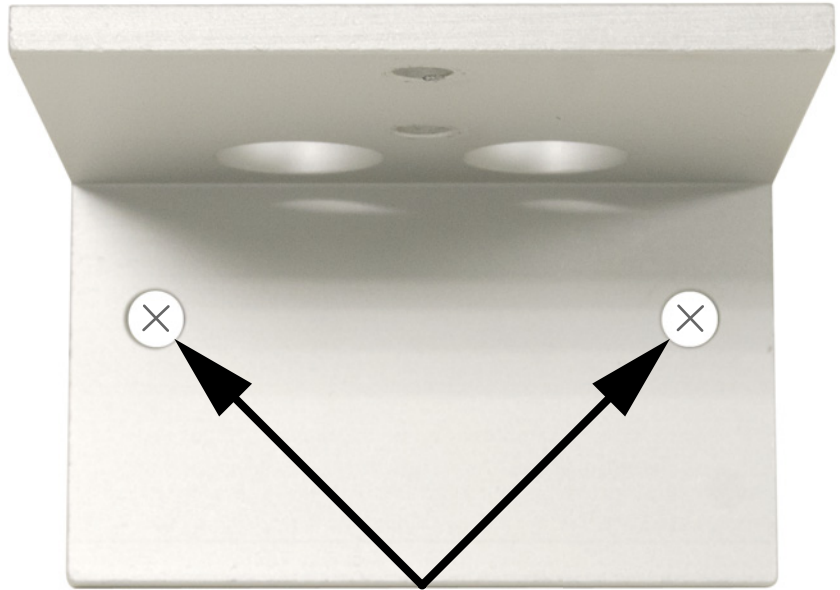

Figure 3 Mark the drilling locations on the wall using the screw holes in the wall mounting bracket as a guide
- 2 Hold the wall mounting bracket against the wall in the location that you plan to install it, and use a pencil to mark the drilling location for the screw holes (Figure 3).